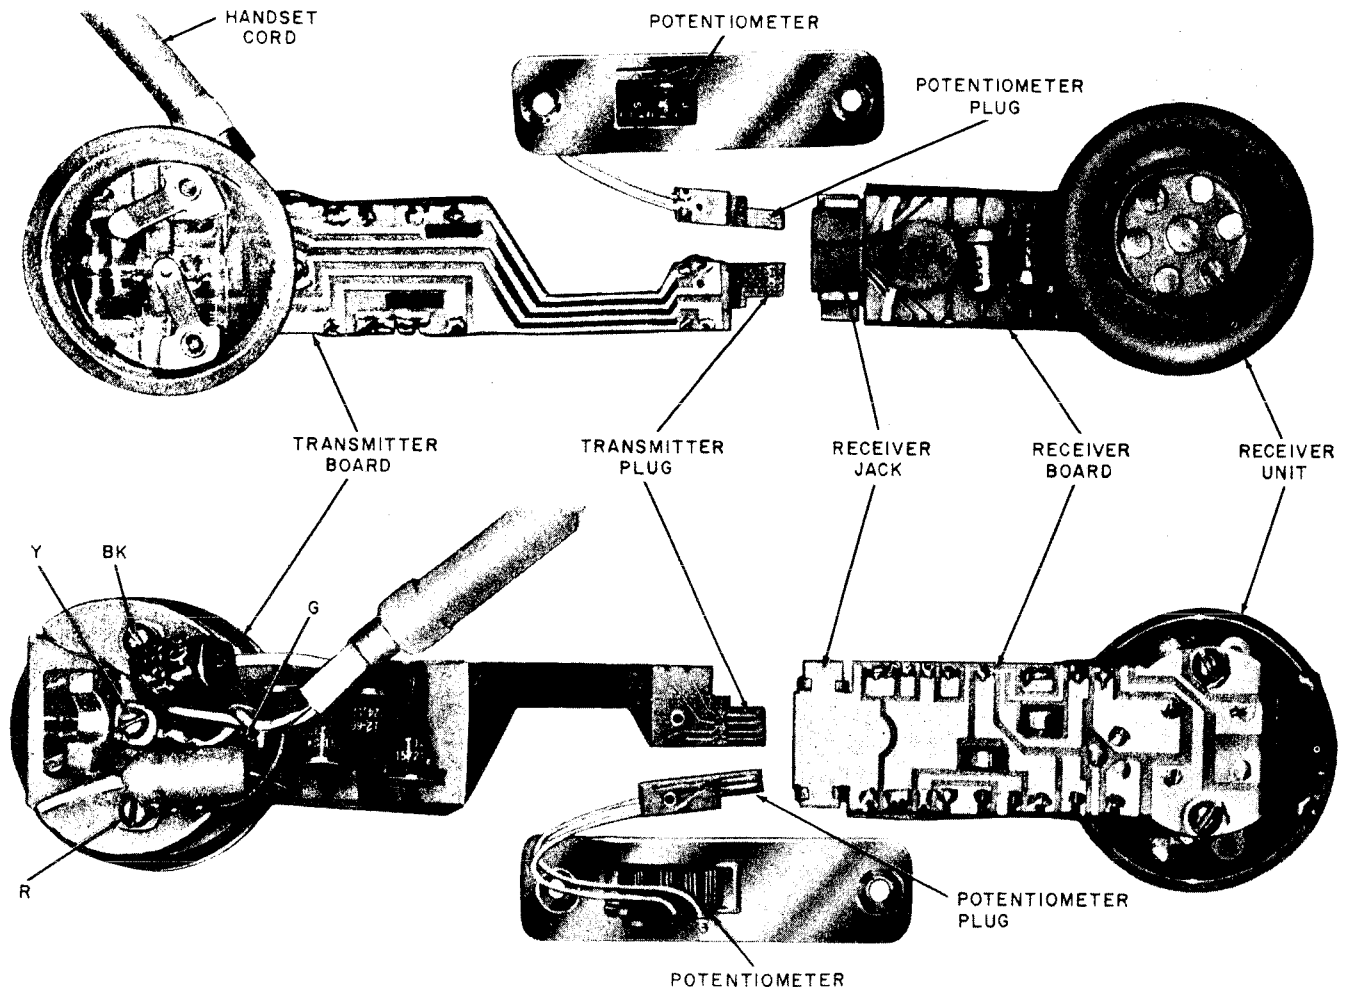

Fig. 1 — G6AR Handset (MD), Internal Assembly
2.03 The G6AR handset, rated Manufacture Discontinued (MD), consists of a printed circuit receiver board, transmitter board, and a potentiometer assembly mounted in the handle. Internal connections are made by a flexible circuit strip and plug-in connectors (Fig. 1).